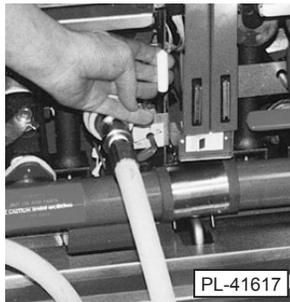
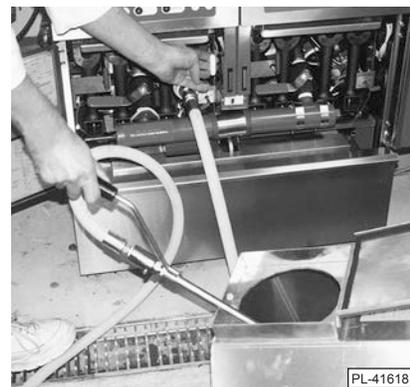

Fig. 14
Fig. 15
5. Place the nozzle in a suitable discharge container. To start the pump, pull the white discard valve handle out (Fig. 14); the oil begins to flow through the discard hose. If the discharge container is not large enough for the entire amount, stop the pump by pushing in the white discard valve handle, empty the container and resume. When the last of the oil is in the discharge container, stop the pump by pushing in the white discard valve handle, turn the filter power switch OFF and disconnect the discharge hose (Fig. 15).